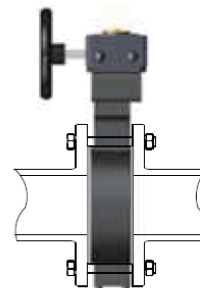

Fig.2
- Tighten the flange bolts in a diagonally opposite way to ensure that the valve is evenly stressed. (see Fig.2)